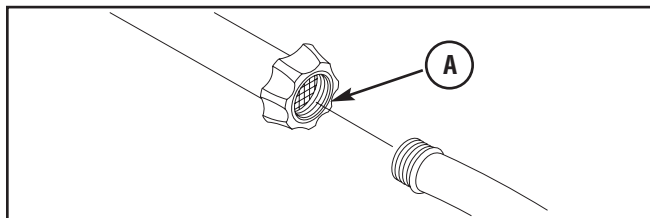

Figure 13— Connect the Garden Hose to Water Inlet
3. Before connecting garden hose to water inlet, inspect inlet screen (A) (Figure 13). Clean screen if it contains debris, replace if damaged. DO NOT RUN PRESSURE WASHER IF SCREEN IS DAMAGED OR MISSING.